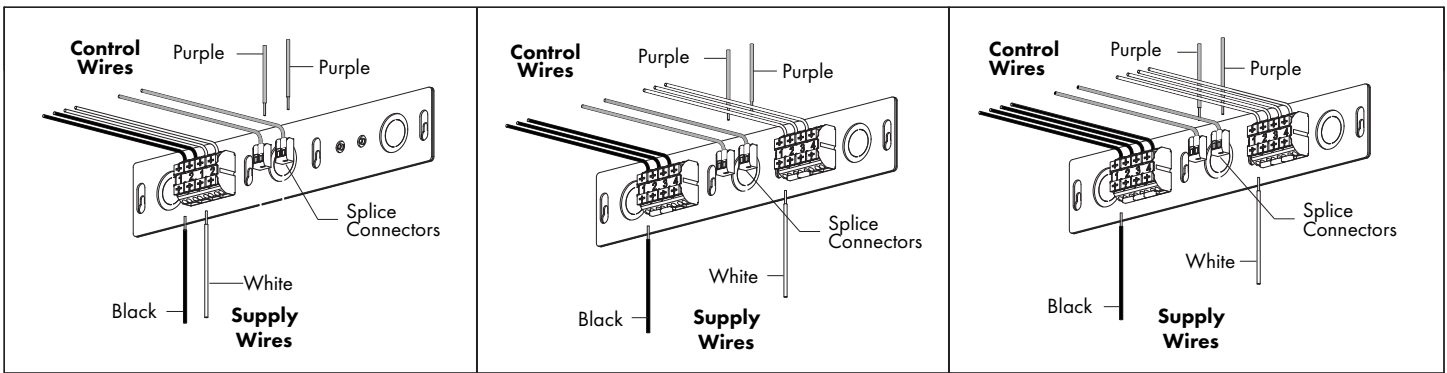

FIG 27.2 Attach Supply & Control Wires
STEP 2 Make wire connections noting individual lamp circuit numbers - **FIG 27.2 & 27.3**.